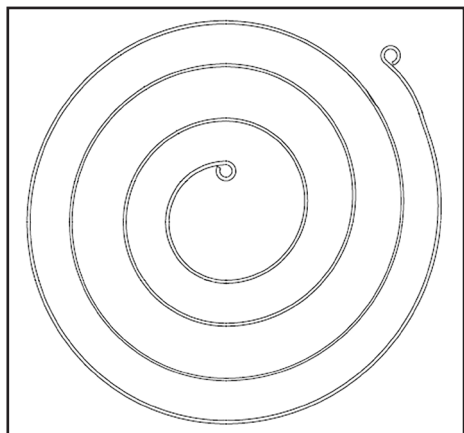

Figure 6.4 – Impulse Coupling Spring,
- A. **IMPORTANT:** Apply a generous coating of clean aircraft engine oil to all surfaces of all impulse coupling assembly (4) parts prior to assembly.
- C. Assemble the inner loop at the end of the impulse coupling spring (4a) into the vertical groove in the impulse cam assembly (4b). The impulse body (4c) should nest onto the impulse cam assembly with little or no tension on the impulse spring. Refer to Figure 6.4 and 6.5.